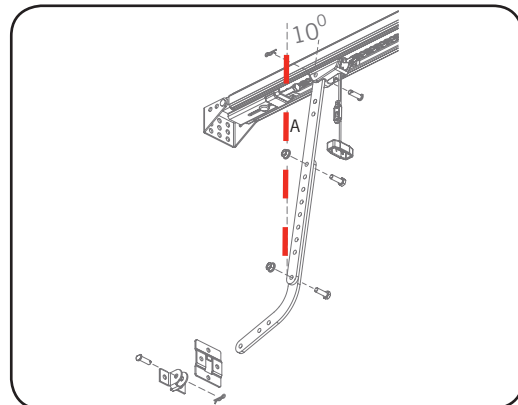

Fig.13
- Assemble the bent and straight arms with bolts and nuts supplied in the accessory pack (Fig.13). Always use both bent and straight arms.
- Connect the assembled arm to the bracket and the disengaged trolley with clevis and snap pins. The angle "A" must be more than 10° (Fig.13).